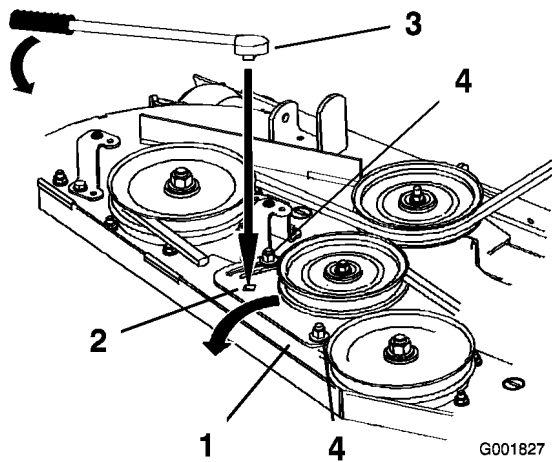

Figure 58
- If adjustment is required, loosen the mower idler plate and adjust it (Figure 58).
6. Insert a ratchet or breaker bar into the square hole in the mower idler plate to adjust the tension (Figure 58).
7. To increase belt tension, rotate the mower idler plate until resistance is felt and rotation stops. Do not go past when it stops (Figure 58).
8. Tighten the idler plate bolts (Figure 58).
10. Adjust the belt tension and the idler plate, if necessary, and tighten all hardware securely (Figure 58).